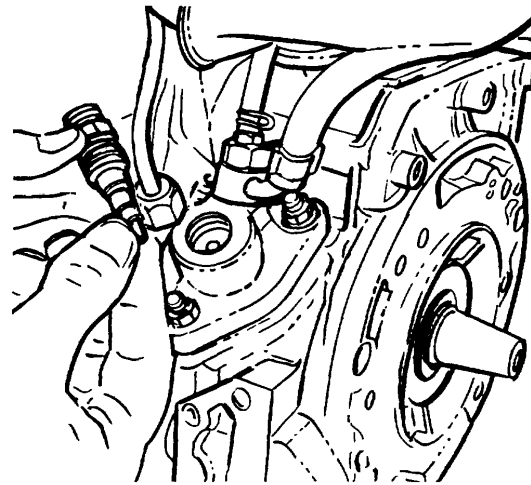

Figure 7-6. Removing Delivery Needle Valve
c. Unscrew the delivery connector to the injection pump, remove the delivery needle valve but not its seat. Install the connector and delivery valve seat back on the injection pump, fig. 7-6.